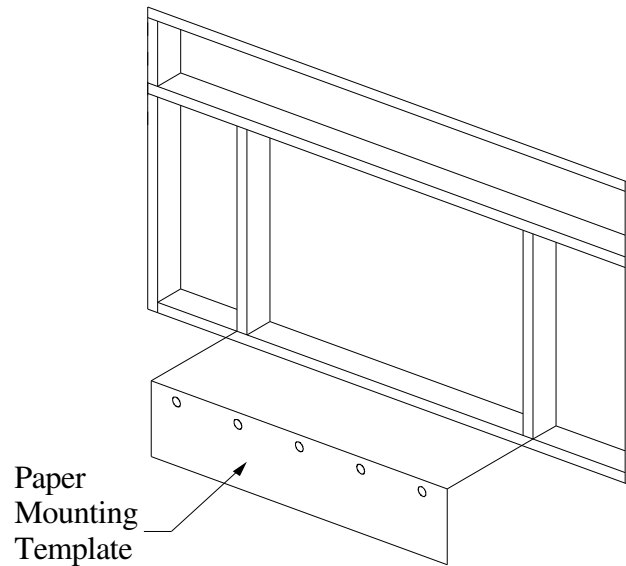

Figure 5
7. Using the paper mounting template, drill a quantity of 5, 1/4" diameter pilot holes for mounting. (See Figure 5) **OUTSIDE ONLY – DO NOT DRILL THROUGH THE FRAME.**